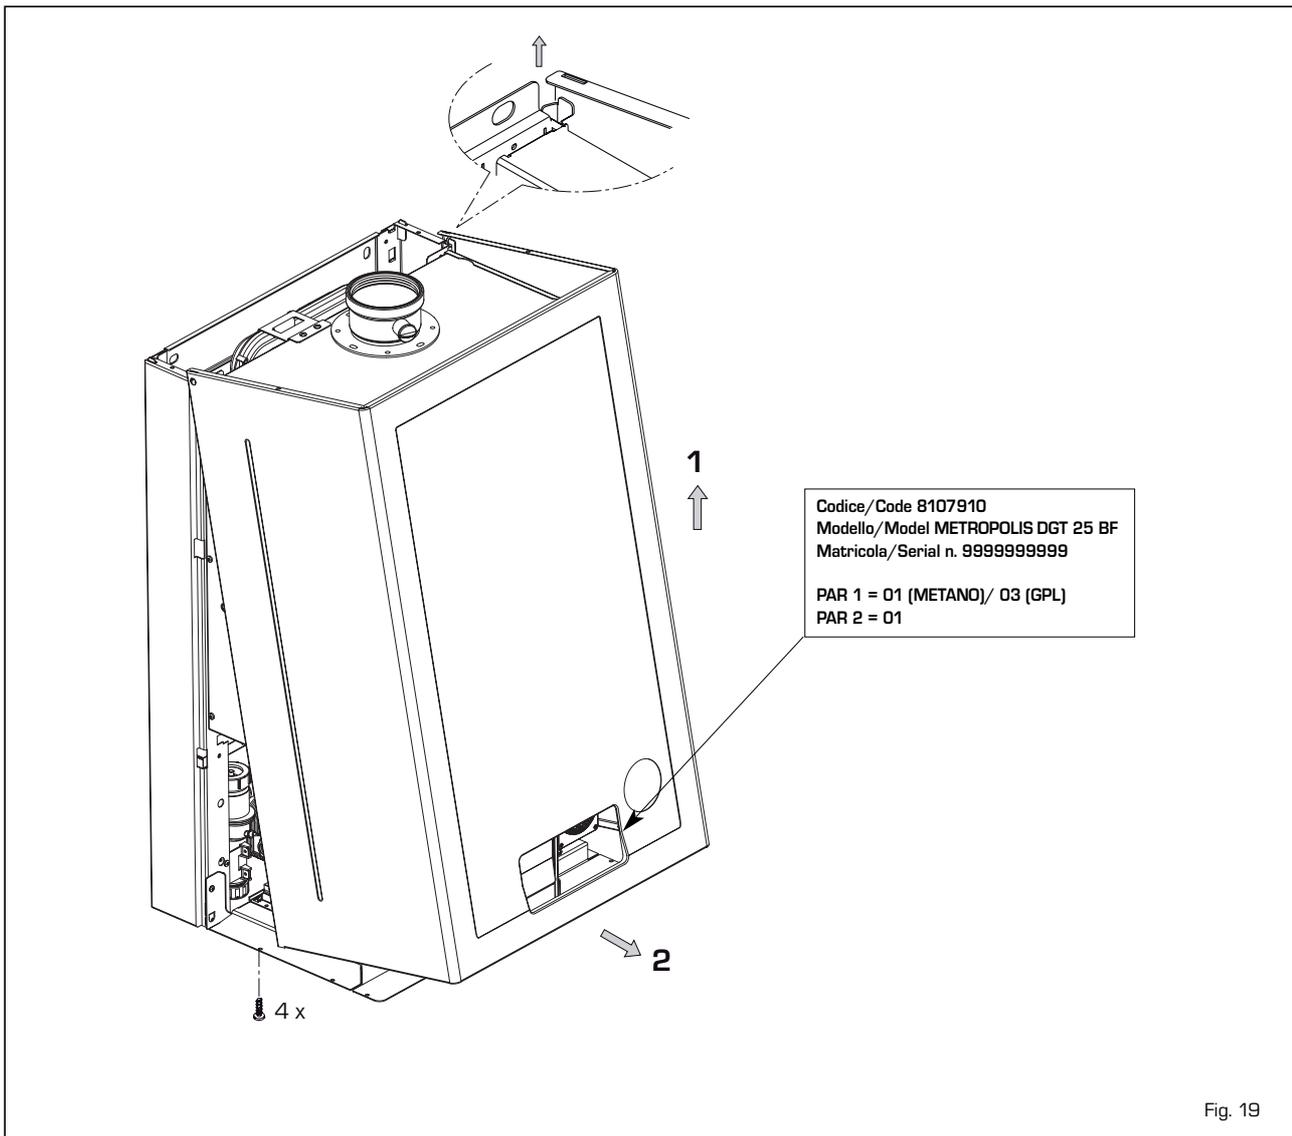

Fig. 19
The casing may be removed completely to facilitate boiler maintenance, as shown in fig. 19.
- Remove the casing as showed in fig. 19.